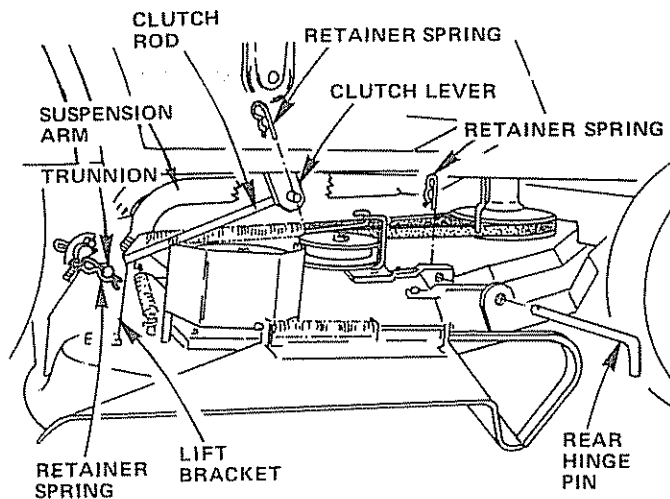
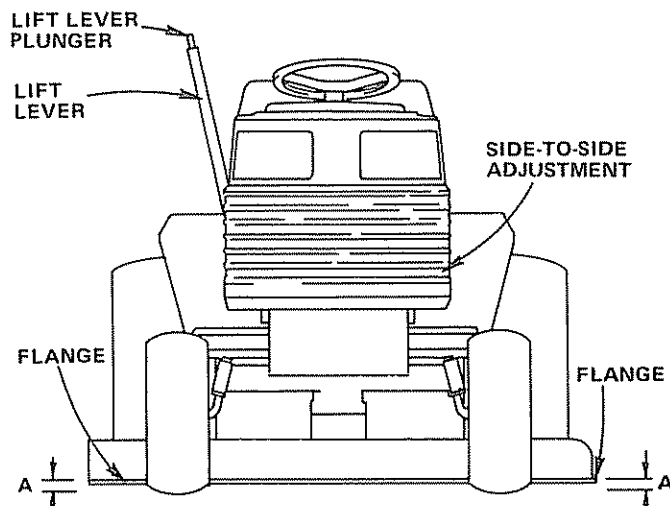

FIGURE 13
FIGURE 15
1. Install Rear Hinge Pin through Mower Lift Brackets and Parallel Link (Fig. 13). Secure with Retainer Spring.
2. Install Clutch Rod in Clutch Lever (Fig. 13). Secure with Retainer Spring.
3. Move Lift Lever (Fig. 15) forward to lower Suspension Arms, Slide Trunnions through Lift Bracket holes and secure with Retainer Springs (Fig. 13).
5. Use Lift Lever (Fig. 15) to raise mower.
2. Measure height of Flange to level surface at front of mower. Distance "A" should be the same (Fig. 15)